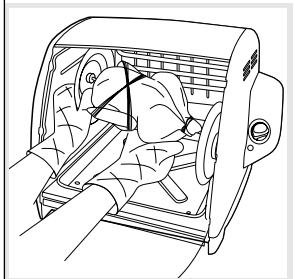

FIGURE 5
22. With glove or oven mitt, lift the left wheel out of the cradle, while sliding the right pointed side out of the hole. Remove the spit from the machine and set food on a platter. (*Figure 5*)